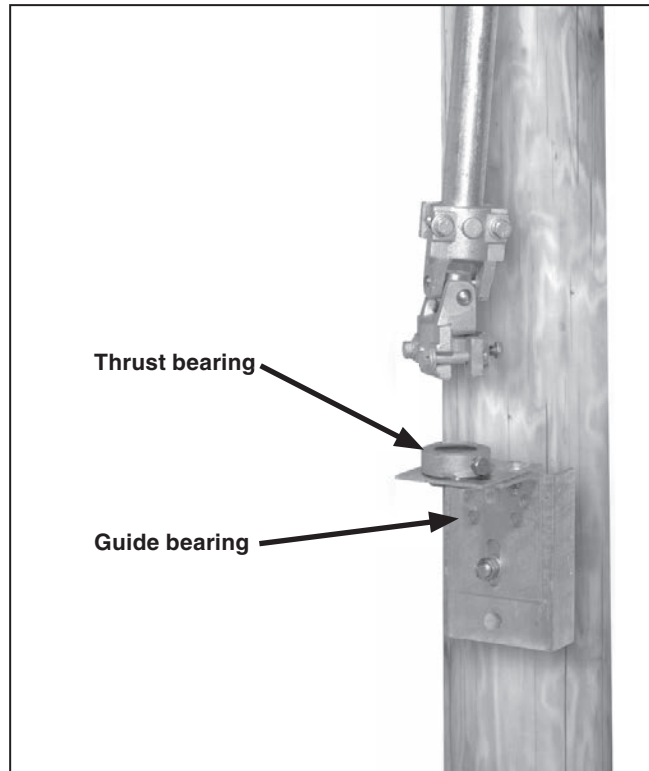

Figure 29. Install the guide bearing.
**STEP 26.** Position and install the guide bearing assembly on the pole in accordance with the dimension shown on the erection drawing. See Figure 29.